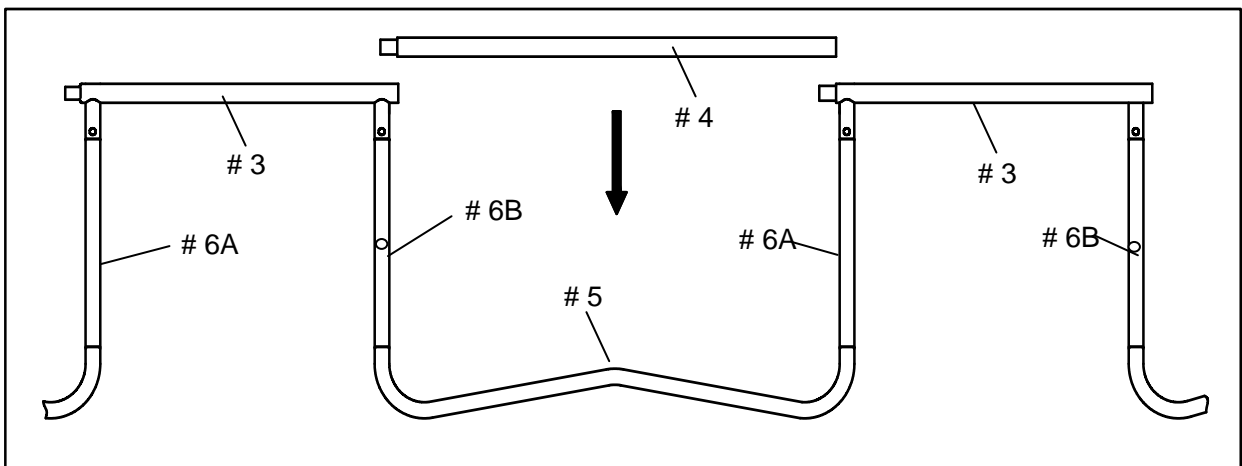

FIGURE 4
- B. Now, install the other Top Rails (# 4) into the gaps between the Vertical Leg Extensions by inserting them into the slots as shown in FIGURE 4.